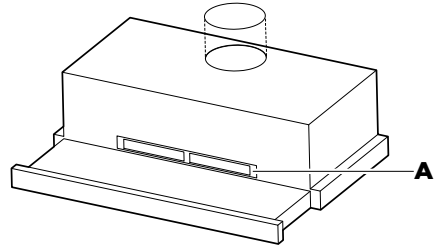

Fig.1 Preparing for install
- Do not remove cover tape (A). See Fig.1. This is removed for recirculating only.
- Remove cover tape (A), see Fig.1.